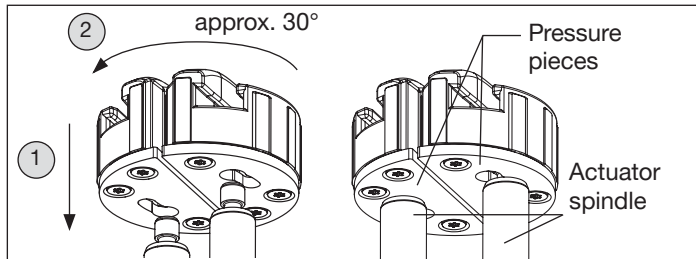

Fig. 20: Assembly pressure pieces
- Insert the pressure pieces into the actuator. Make sure that the actuator spindles are fully inserted into the corresponding recesses of the pressure pieces (see “Fig. 20”).